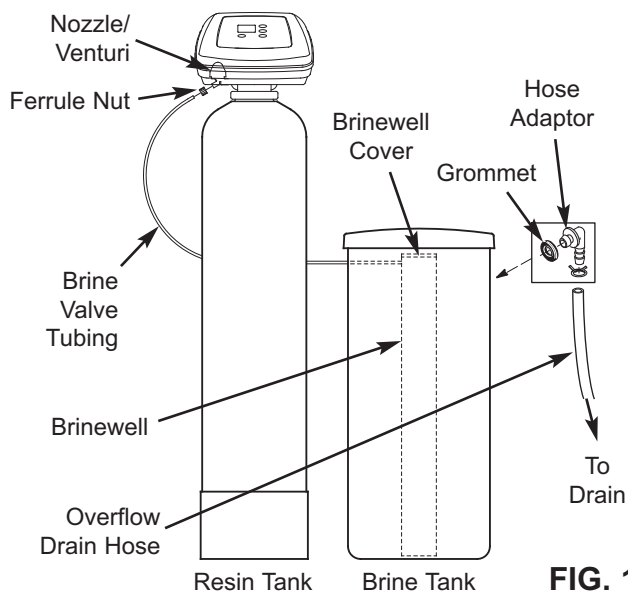

FIG. 14
- Insert the rubber grommet into the 3/4" diameter hole in the salt storage tank sidewall (See Figure 14).
- Connect the end of this tube to the nozzle/venturi assembly, as shown in Figure 14, using a ferrule nut (provided). Tighten the nut by hand, then an additional 1/4 turn with pliers.